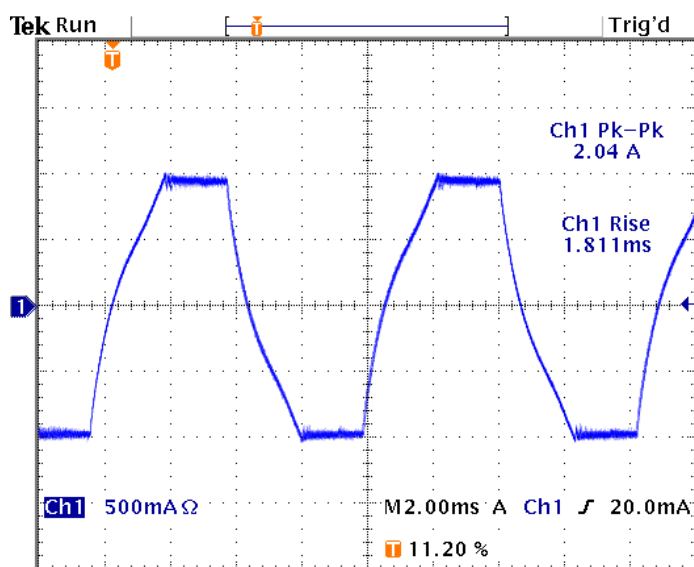
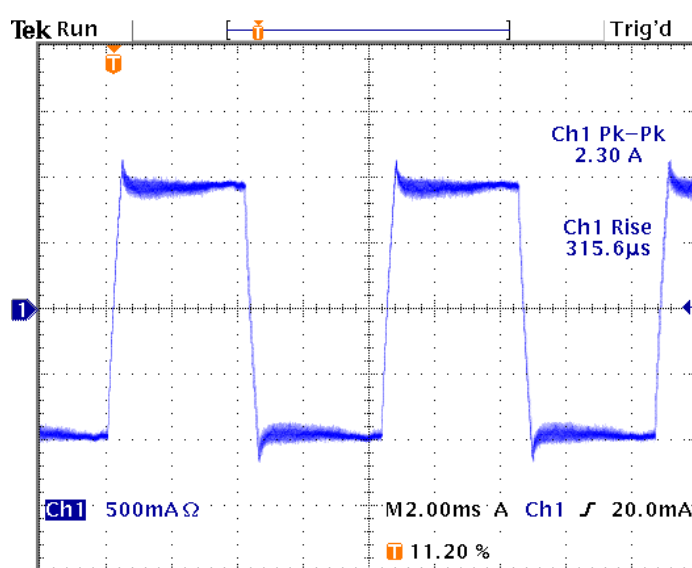

Figure 18: 8V supply, 1.8ms rise/fall time
Figure 21: 24V supply, 0.32ms rise/fall time
In the following 4 figures the current waveform of one motor phase is plotted vs. the IC and motor supply voltage. The mixed decay mode with MTH voltage of 0.4V has been used to achieve the optimum current waveform. For the measurement as shown in Figure 18 the supply voltage was only 8V. Here it can be clearly seen that due to the motor phase inductance the current rise and fall times are limited. Note that without the current limit feature of ROHM's stepper motor driver IC the motor voltage would be limited to 2.8V only. With that low voltage the motor speed and torque could never be as high as demonstrated here. The following figures show the current waveforms with 12V, 18V and 24 supply voltage and the improvement of rise/fall time which corresponds to higher motor torque.
**Figure 18 to Figure 21: Full step mode, continuous spin with 144 rpm, 1A/phase, mixed decay (0.4V)**